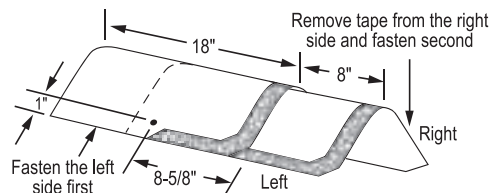

Figure 16-16: Installation of Shangle Ridge shingle on hips and ridges.
7. Fasten each cap with two fasteners (see Figure 16-16). The fasteners must be $1\frac{3}{4}$ " (45 mm) long, or longer, so they penetrate either $\frac{3}{4}$ " (19 mm) into the deck or completely through the deck, exposing at least $\frac{1}{8}$ " (3.2 mm) of the tip of the nail. Expose 8" (203 mm) of the accessory along the ridge or hip line and cover all fasteners.